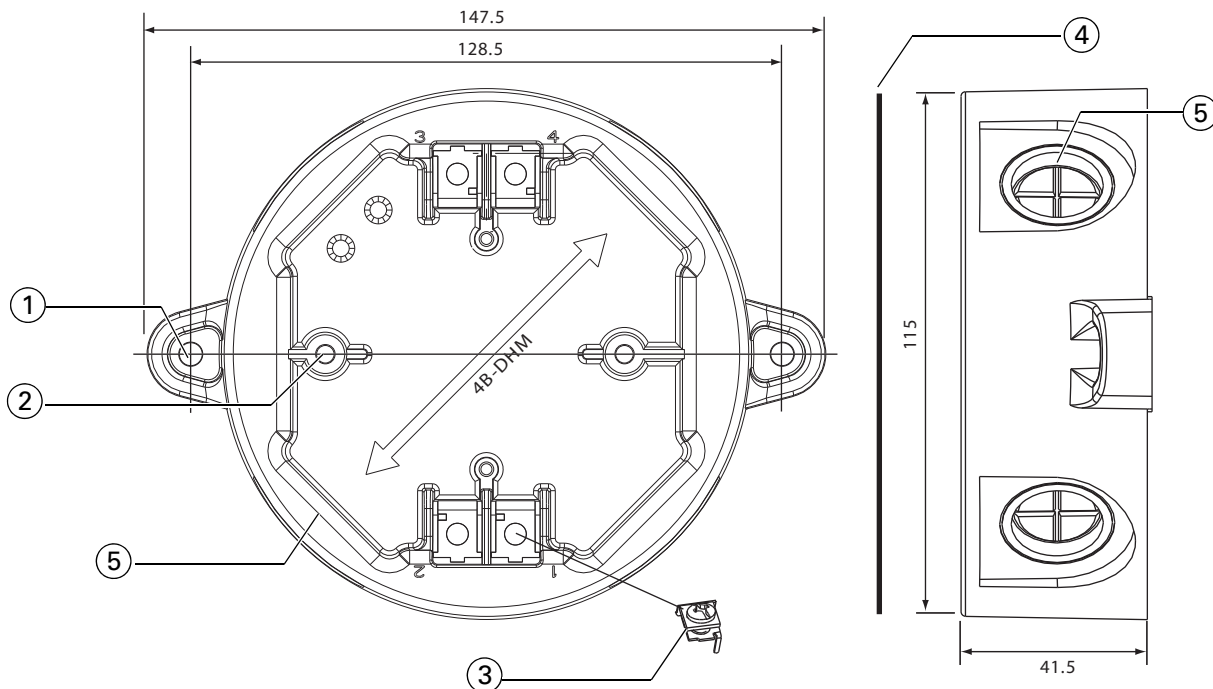

Fig. 8: 4B-DHM deckhead mounting
The Deckhead Mounting is designed to be used in particularly damp or dirty environments. The kit is illustrated in Figure 8.
- 1 Note that the item numbers in this procedure refer to Figure 8. Remove gland/conduit knockouts (Item 5) as appropriate. For the larger 25 mm diameter, a hole cutter is required.
- 4 Fix the 4B-DHM to the surface by screwing through the fixing holes – item 1 in Figure 8.
- 5 Remove the backing from the sealing gasket (Item 4 in Figure 8). Carefully stick the gasket to the front surface of the 4B-DHM. Fit the gasket round the rim, so that it will form a seal with the detector base.